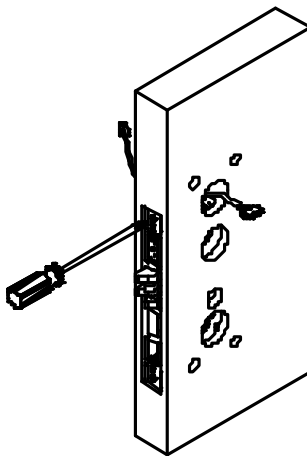

Figure 8
8) Put lock body's connecting wires and plugs out through the hole, show as figure, tighten 2 cross recess wood screws in to fix the lock body. Show as Figure 8.